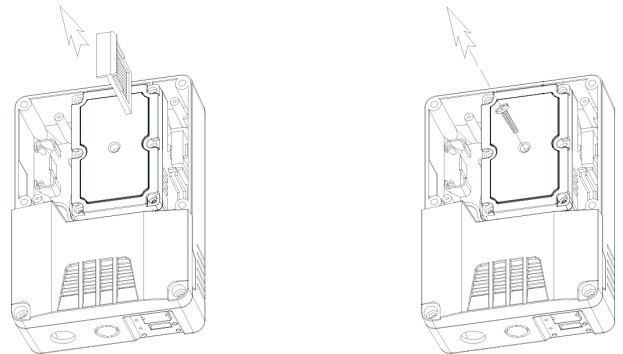

Fig. 11.
2. Pull out the air inlet filter (left side of Fig. 11) from the lower right side of the sensor module, and then remove the fixing screws on the middle of the module (right side of Fig. 11).